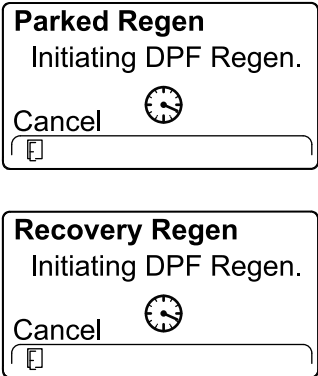

Figure 55
- The InfoCenter displays the INITIATING DPF REGEN message (Figure 55).